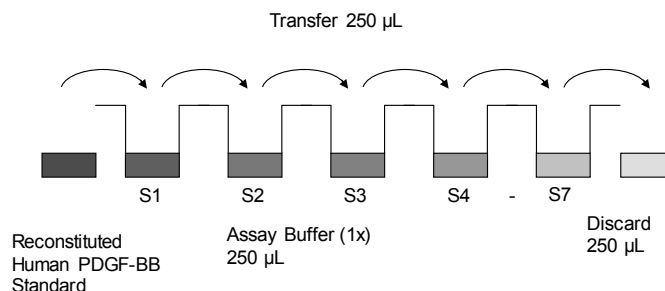

Fig. 6 External standard dilution
- Repeat serial dilutions 5 more times thus creating the points of the standard curve (see Figure 6).